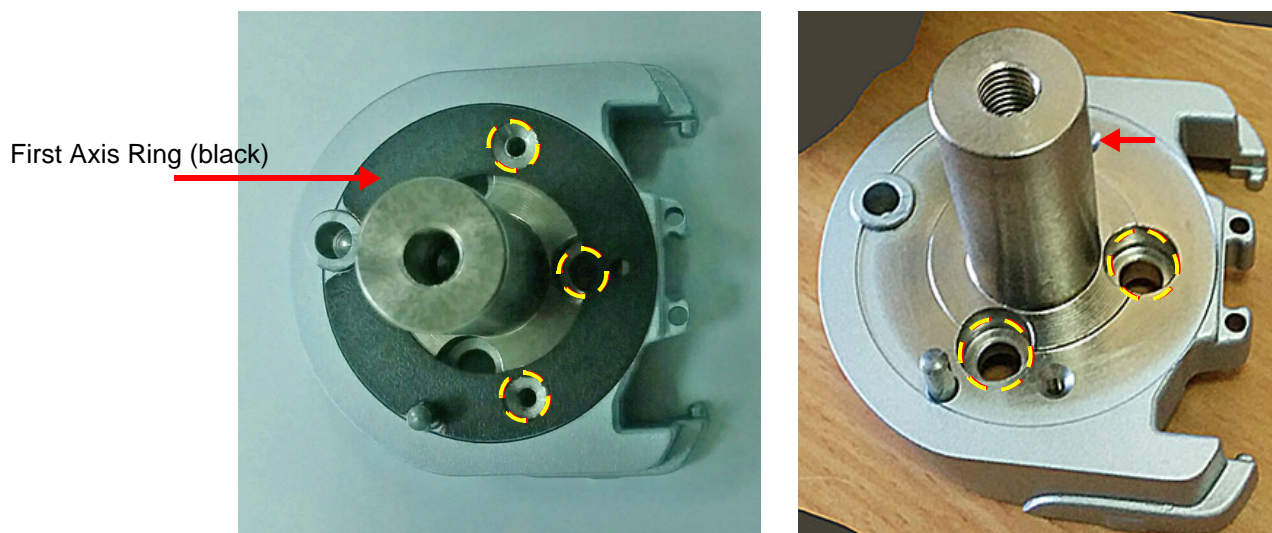

Figure 8-122 First Axis Ring and Securing Screws
- 2) Remove the First Axis Ring (see also Figure 8-120, above) by releasing the three securing screws (the picture on the left shows the First Axis Ring with the screws already removed - Figure 8-122).
- 3.) To remove the First Axis Pin, unscrew the three securing screws (refer to Figure 8-122). See also Figure 8-120 on page -126.